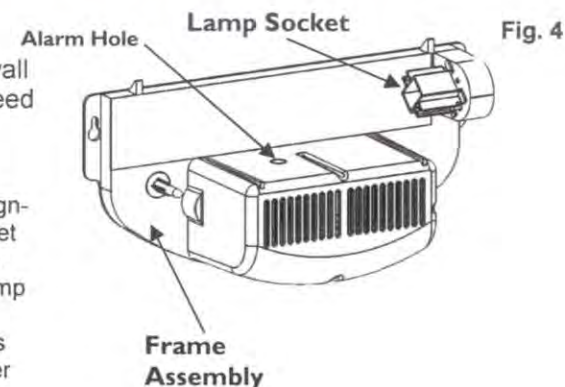

Fig. 4
1. Remove the ultraviolet lamp from the box. Insert the lamp into the lamp socket by aligning the pins of the lamp with the light socket and snap in firmly. (Fig. 4 & 5) **NOTE:** It is recommended to replace the ultraviolet lamp every **eight months** of use to maintain optimum performance of the unit. After this time the lamp may still light but is no longer emitting enough of the special UV light frequency required for an effective insect catch.
The Fly Patrol has an out of paper sensor that emits an audible beep when it is time to replace the cartridge. The alarm is triggered when the paper no longer covers the alarm hole in the top of the motor enclosure. (see Fig. 4)